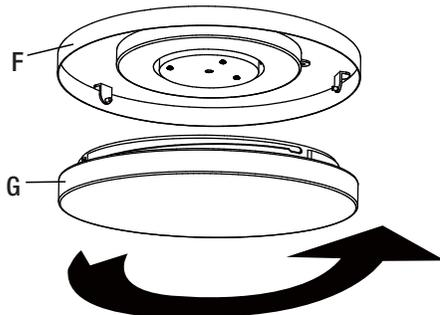

Figure 15
- Install the lamp shade (G) onto the light kit plate (F) by gently twisting and locking into position. (Figure 15)